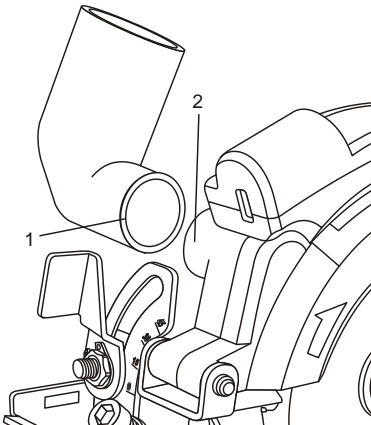

Fig. 6
1. Place the small end of the vacuum adaptor (1) over the vacuum port (2) on the blade housing (Fig. 6).